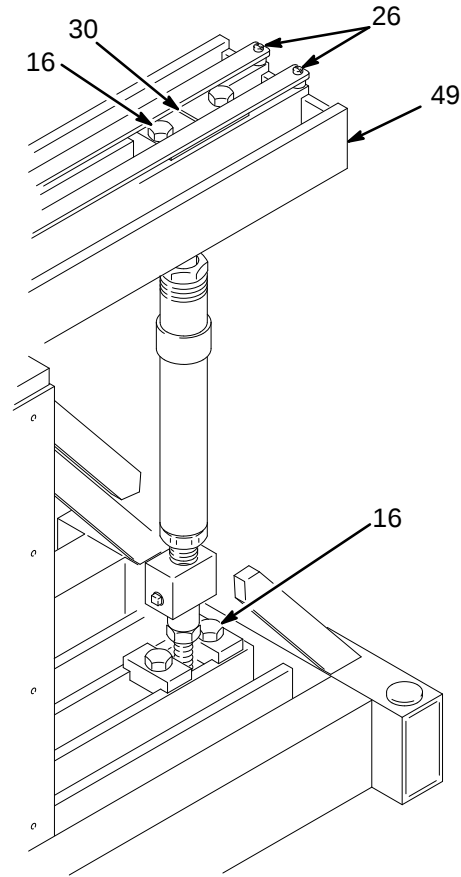

Fig. 6
The numbers in the Ratio Setting columns of Charts 1, 2 and 3, or the pump settings calculated from the procedures in the section, **Calculate the Ratio Setting**, correspond to the scale numbers on the lever arm (49) of the VRHC. See Fig. 6.